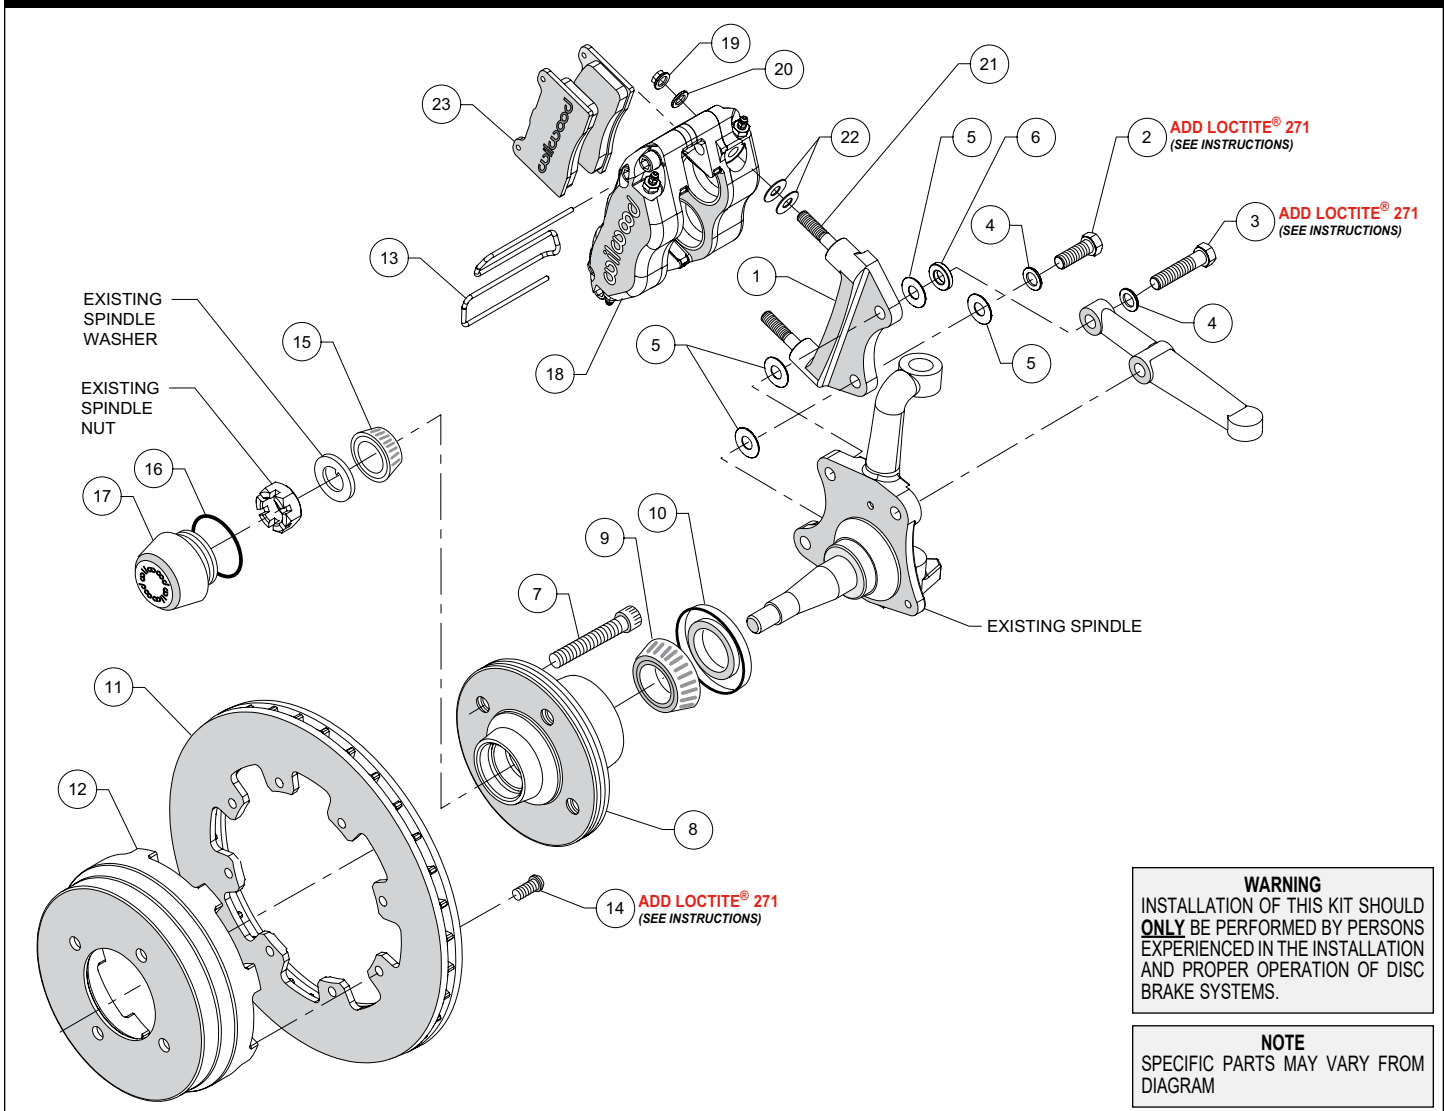

Figure 1. Typical Installation Configuration
**NOTE:** Numbers in parenthesis refer to the parts list and Figure 1 on the preceding pages.
- The caliper mount bracket (1) should initially be installed with clean, dry threads on the mounting bolts. Orient the bracket as shown in Figure 1 and Photo 1, and install between the spindle and steering arm using bolts (2/3), washers (4), shim washers (5), and spacer (6). Initially place one .030" thick shim (5) on each bolt between the bracket and spindle, and one shim on each bolt on the opposite side of the bracket, see Figure 1. Temporarily tighten the mounting bolts. **NOTE:** The bracket must fit squarely against the mount bosses on the upright. Inspect for interference from casting irregularities, machining ridges, burrs, etc. Later, after the caliper alignment has been checked, the mount bolts will be secured using red *Loctite*® 271.
- Install wheel studs (7) into the hub (8), Photo 2. Torque to 77 ft-lb.
- Pack the large inner bearing cone (9) with high temperature disc brake bearing grease (available from your local auto parts store) and install into the backside of the hub (8), Photo 3.
- Install the grease seal (10) by pressing into the backside of the hub (8). **NOTE:** When fully installed, the seal will remain approximately .08" above surrounding hub surface, Photo 3. Be sure seal O.D. and mating bore in hub are free of grease prior to installing seal.
- Pack the small outer bearing cone (15) with high temperature disc brake bearing grease and install into hub (8). Slide the hub assembly onto the spindle. Secure using OEM spindle washer and OEM spindle nut, Photo 4. Adjust bearings per OEM specifications. Install saved OEM nut lock (if any) and a new cotter pin (not included).
- Orient the rotor (11) and the hat (12) as shown in Figure 1 and Photo 5. Attach rotor to hat using bolts (14). Apply red *Loctite*® 271 to the bolt threads and torque to 25 ft-lb using a criss-cross pattern.
- Screw dust cap (17) into hub (8), Photo 6. Friction created by the o-ring (16) on the dust cap keeps it from unscrewing. **NOTE:** The O.D. of the existing OEM spindle washer may be larger than the
- Slide the hat/rotor assembly (11/12) onto the hub (8). Install three lug nuts (finger tight) to keep the hat/rotor assembly in place while continuing with the installation.
- Initially place two .035" thick shims (22) on each stud (21) between the caliper and the bracket, as shown in Figure 1 and Photo 7. Mount the caliper (18) onto the bracket (1) using lock nuts (19) and washers (20), Figure 1. Temporarily tighten the lock nuts and view the rotor through the top opening of the caliper. The rotor should be centered in the caliper, Photo 8. If not, adjust by re-allocating shims (5) from one side of the bracket to the other. Always use the same amount of shims on each of the two mounting bolts. Once the caliper alignment is correct, remove the bracket mounting bolts one at a time, apply red *Loctite*® 271 to the threads, and torque to 47 ft-lb.
- Remove the caliper center bridge retainer bolt, nut, and tube from the caliper. Remove the caliper pad retainer clip (13). Install the brake pads (23) into the caliper, with the friction material facing the rotor, as shown in Photo 9. Check that the top of the brake pad is flush with the outside diameter of the rotor, Photo 10. If not, adjust by adding or subtracting shims (22) between the caliper and the bracket. After the caliper pad height is set, reinstall the center bridge retainer tube, bolt, and locknut. The locknut should be snug without play in the bolt or tube. Be cautious not to over tighten. Torque the caliper lock nuts (19) to 35 ft-lb. Secure the brake pads in place using the pad clip retainer.